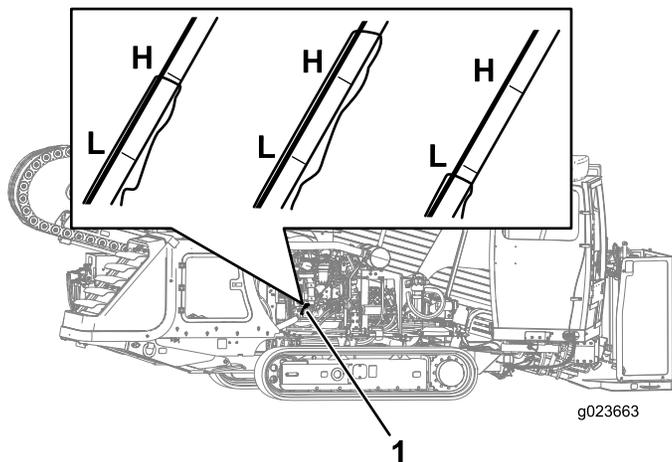

Figure 88
3. Remove the dipstick (Figure 88), and wipe it clean.